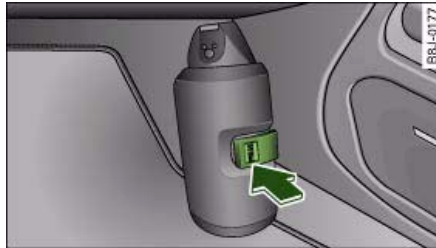

Fig. 266 Fire extinguisher in footwell on front passenger's side
- Unfasten the retaining strap by pressing on the tab marked "PRESS" ⇒ fig. 266 -arrow-.